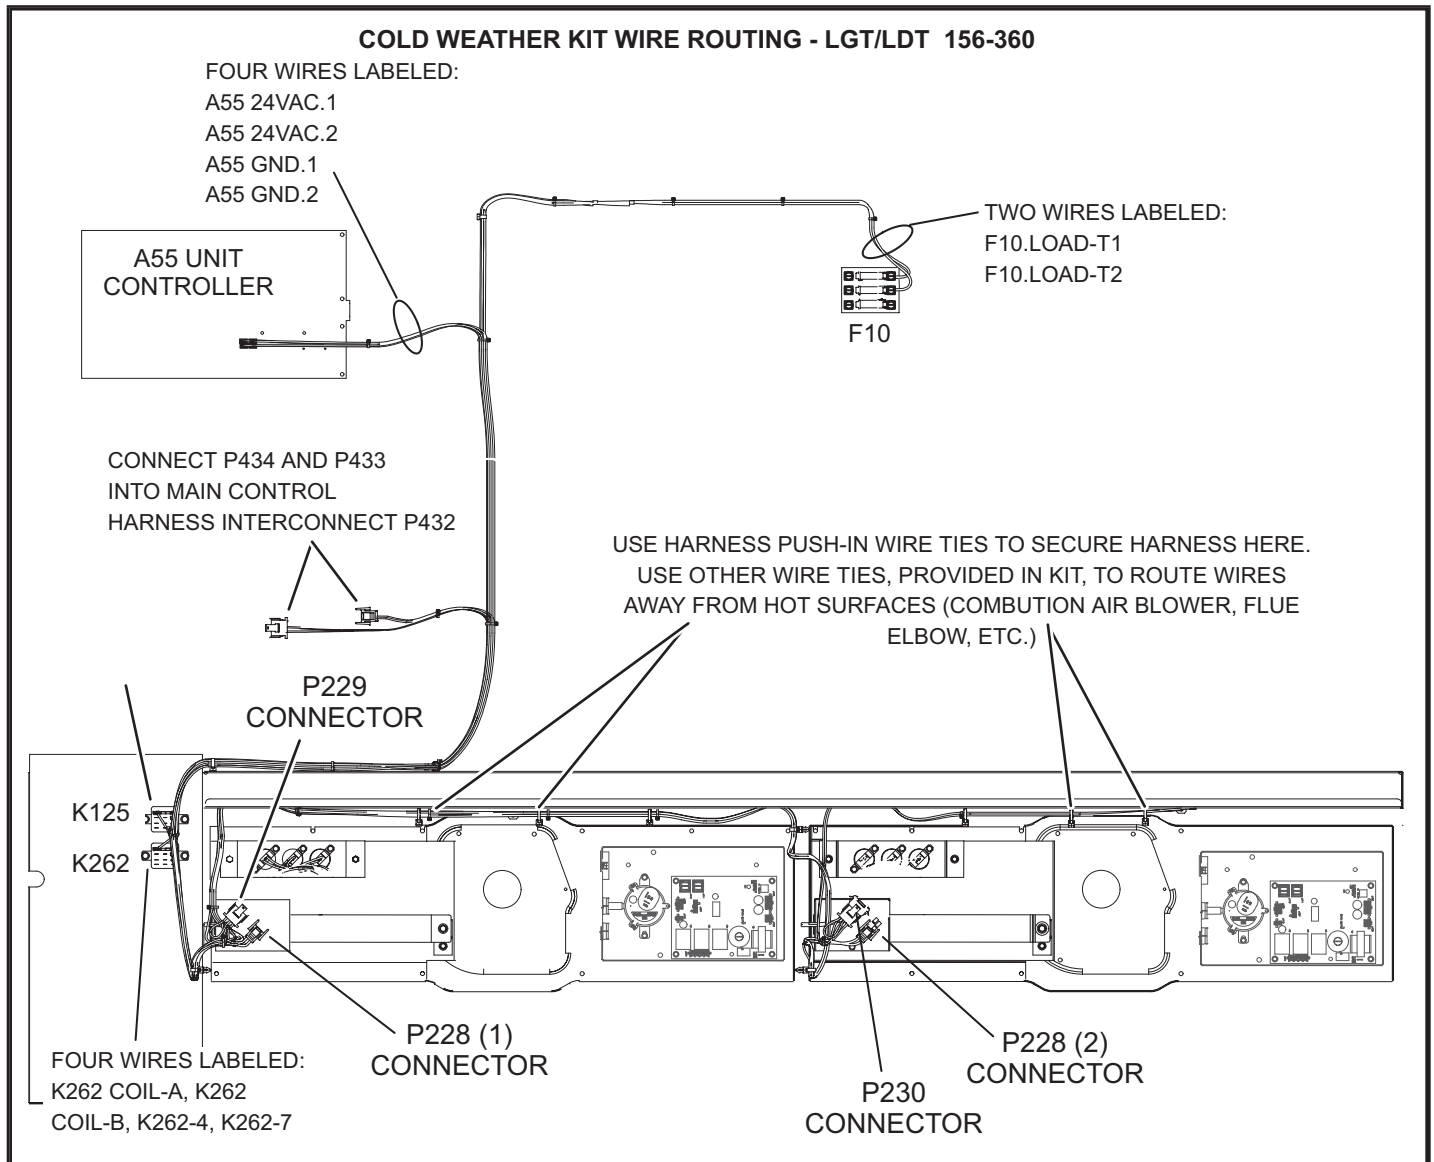

FIGURE 22
- 3 - Install both relays as shown in FIGURE 22. Secure with #8 screws.
- 4 - Locate harness labeled 107210-01 (108303-01 for LGT/LDT 302-360). Route as shown in FIGURE 22. Secure with wire ties. Discard unused harnesses.
- 5 - Make wire connections as shown in FIGURE 22.